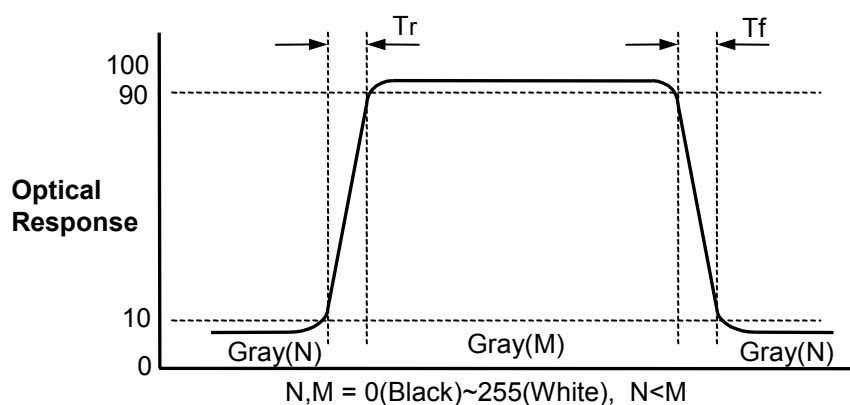

FIG. 3 Response Time
4. Response time is the time required for the display to transition from G(N) to G(M) (Rising Time, T_r) and from G(M) to G(N) (Falling Time, T_f). For additional information see the FIG. 3. ($N < M$)